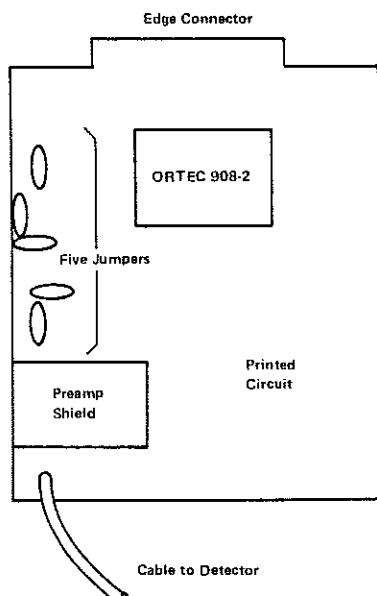

Fig. 3.1. Jumper Locations for Setting Polarity on the PWB.
3. Note the locations of all five jumpers on the component side of the 676 PWB (Fig. 3.1). The "+" and "-" orientation for each of the jumpers is etched on the PWB.